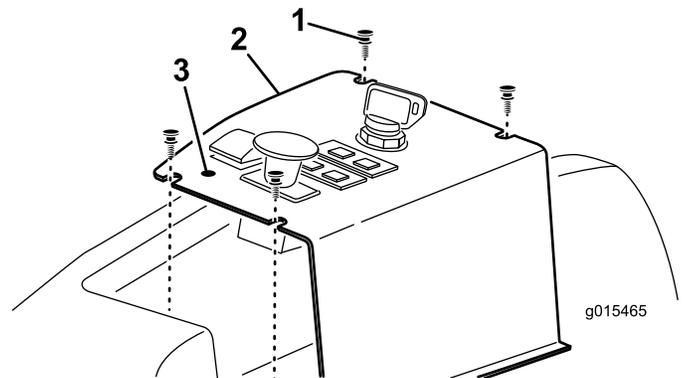

Figure 12
- Carefully locate and puncture the control panel decal material, in front of the lift switch, to expose the mounting hole for the lift lock lever (Figure 12).
- Mounting screw (4)
- Remove the (4) screws securing the control panel to the machine (Figure 12).